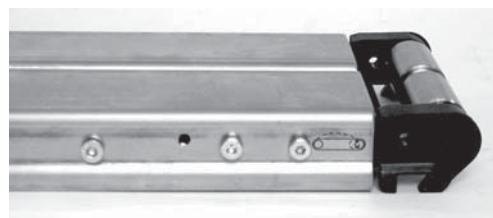

Figure 5
2. Compress tension end (Figure 5). Refer to steps 3 and 4 under the “Belt Removal for Conveyor Without Gearmotor Mounting Package or Stands” on page 13.